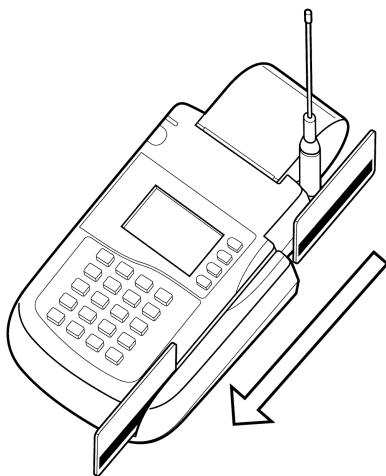

Figure 4 Using the Magnetic Stripe Card Reader
- A **magnetic stripe card reader**, built in to the right side of the terminal. A graphical icon, shown to the right, indicates the proper card position and swipe direction (see Figure 4).